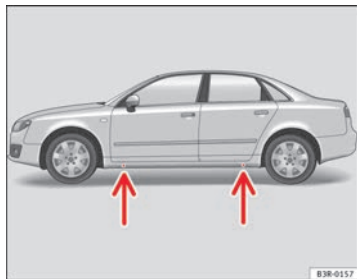

Fig. 184 Changing the wheel: The jacking points
- Position the vehicle jack under the door sill at the **jacking point** closest to the wheel being changed ⇒ fig. 184 -arrows-.
Recesses at the front and rear of the door sills mark the jacking points ⇒ fig. 184 -arrows-. There is only *one* jacking point for each wheel. Do not fit the jack anywhere else.